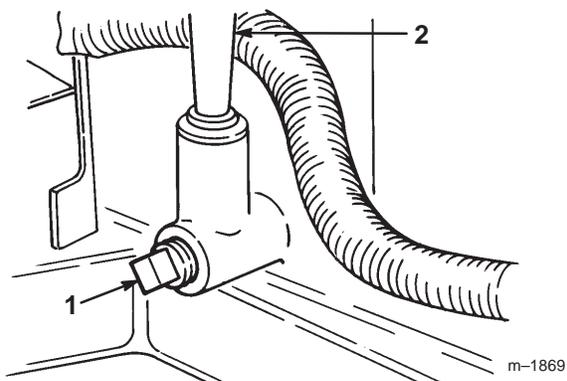

Figure 32
4. Place a pan below the oil dipstick/filler tube and remove the drain plug (Fig. 32).